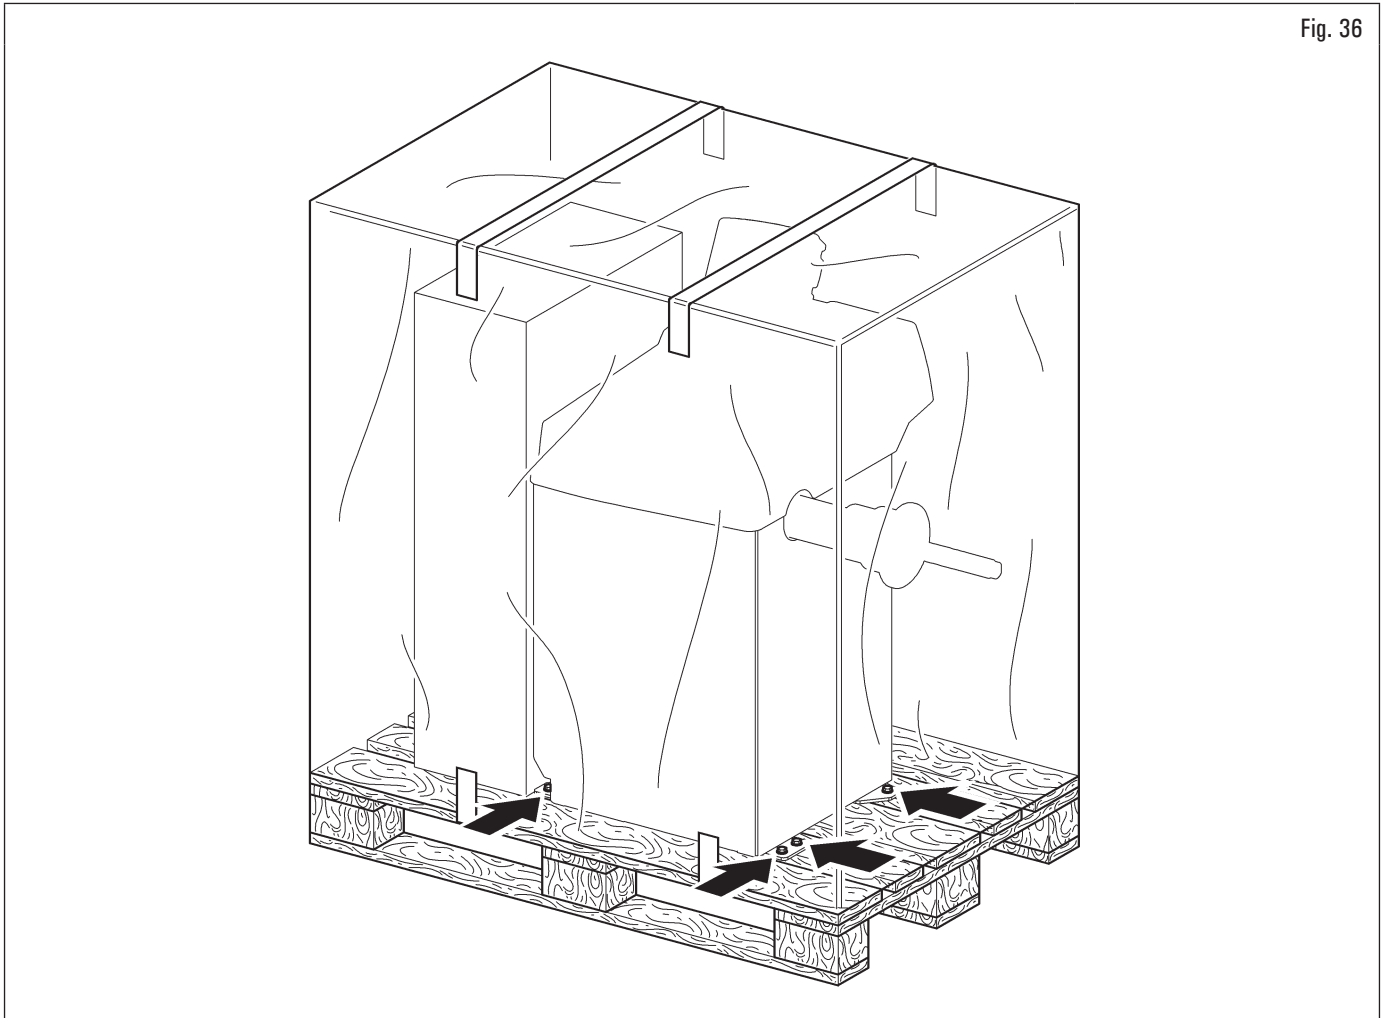

Fig. 36
- The equipment is usually shipped partially assembled as shown in Fig. 36.
- lift carefully, using adequate load support means, in perfect working order, using the appropriate signs placed on the packaging Fig. 36.